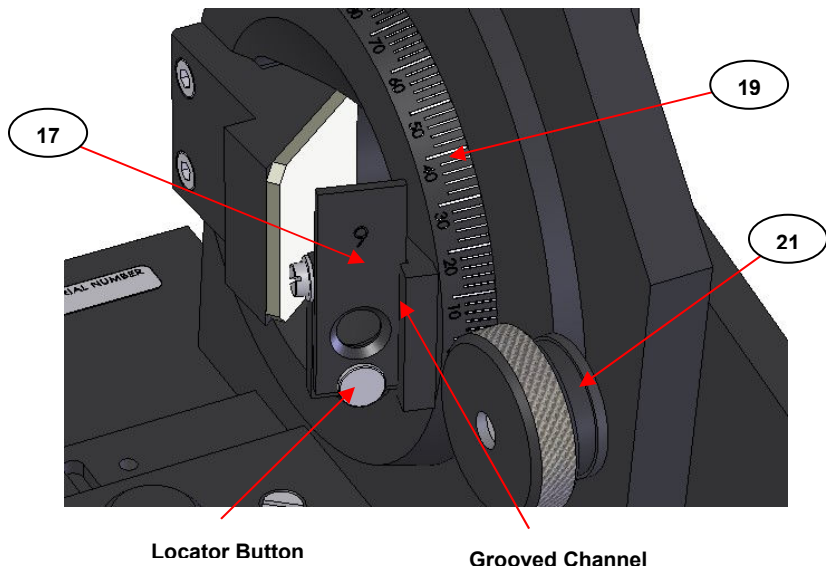

Fig 12. Detail of Aperture Stop Mount Holder on Butterfly Arm
*L to R beam direction – aperture mount (17) on **left** arm (1).*
Fig 12. shows a close-up detail of the aperture stop holder mount (17) as fitted to the butterfly arm (1). The 6mm diameter size aperture stop is shown in position in the holder. The circular cut out of the aperture stop is positioned over the locator button of the holder mount (17) and is retained to be held upright in the grooved channel to the side.